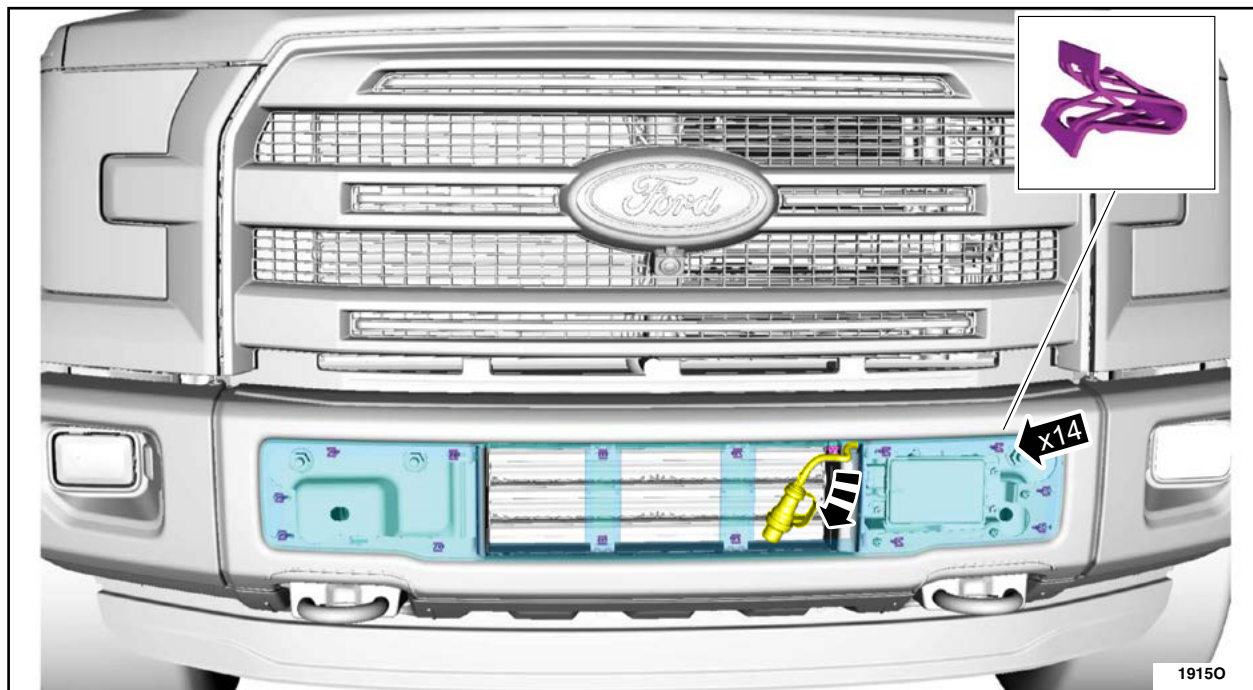

FIGURE 4
2. Release the clips, detach the 110V plug end retainer and remove the front bumper trim panel. Remove any clips that remain in the bumper and reinstall them onto the front bumper trim panel. See Figure 4.
See Figure 4.